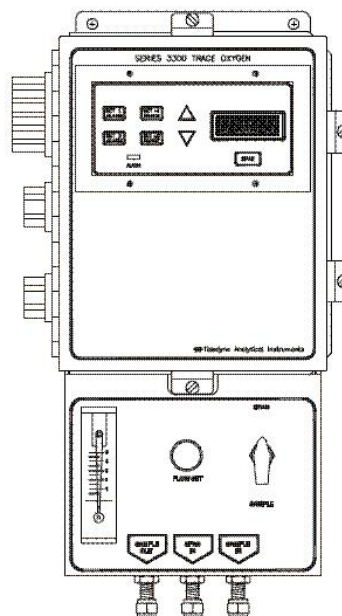

Figure 4-1: Front Panel Controls and Indicators
- All of these functions are performed via the front panel controls, shown in Figure 4-1.